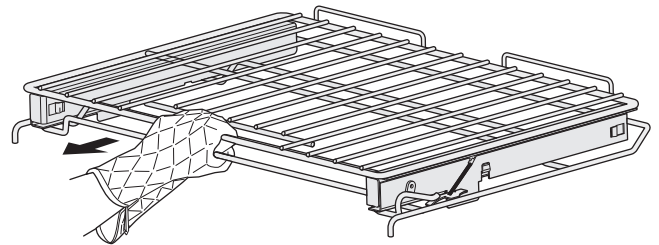

Figure 11: Removing the oven glide rack
2. While holding up the release lever, pull the glide rack out of the oven until the stop position is reached (See Figure 11).